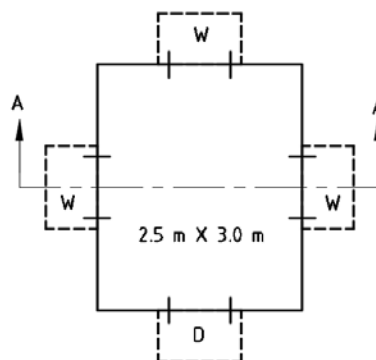

Fig. 8.1
1. Draw the plan, elevation, and sectional side view A-A, of a police outpost whose line plan is shown in Fig. 8.1 (150 min /10 marks /level 1)